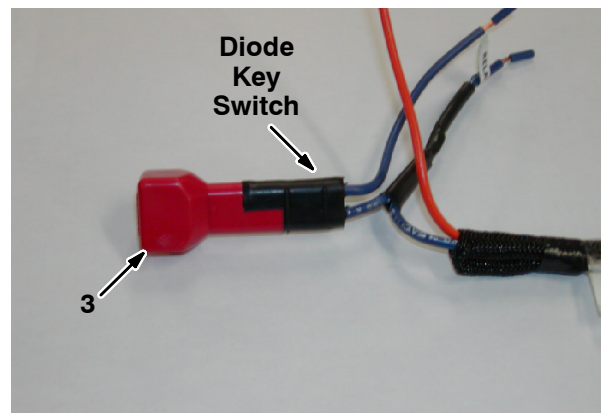

FIG. 5
10. Plug the diode (3) into the diode key switch harness attached to the timer start harness (1). Refer to Fig. 5.